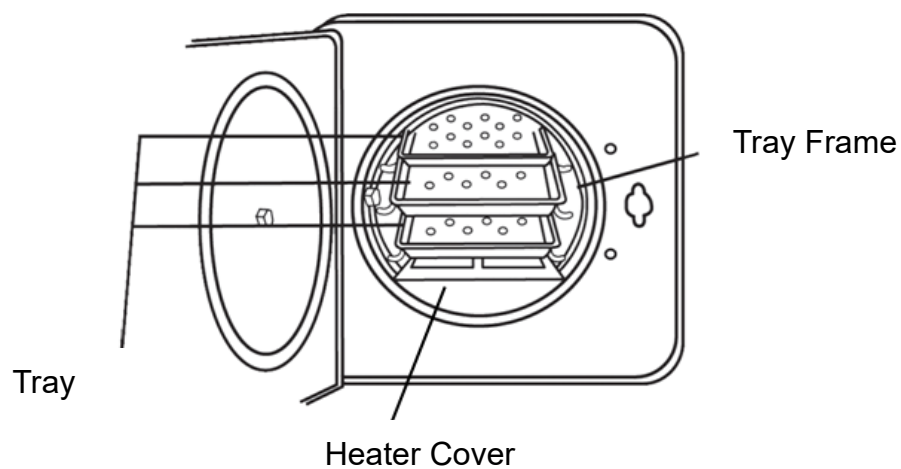

Figure 7 – Tray
- E. Install the tray as Figure 7. (optional accessory)